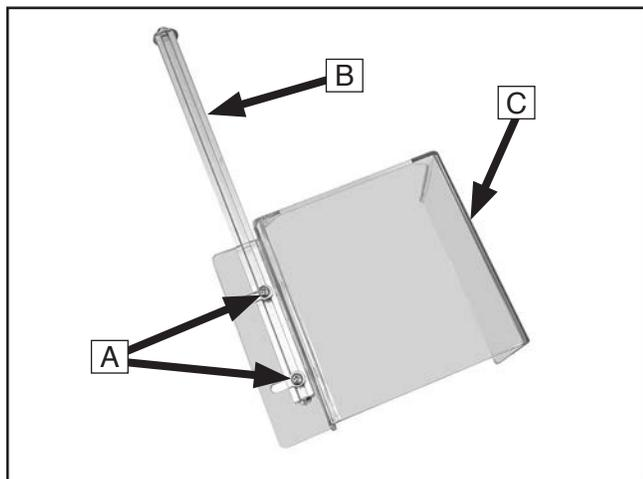

Figure 16. Chip guard attached to chip guard rail.
- Remove (2) Phillips head screws from T-slot nuts (see **A** in **Figure 16**) inside chip guard rail (see **B** in **Figure 16**), then use screws and nuts to attach chip guard (see **C** in **Figure 16**) to chip guard rail.